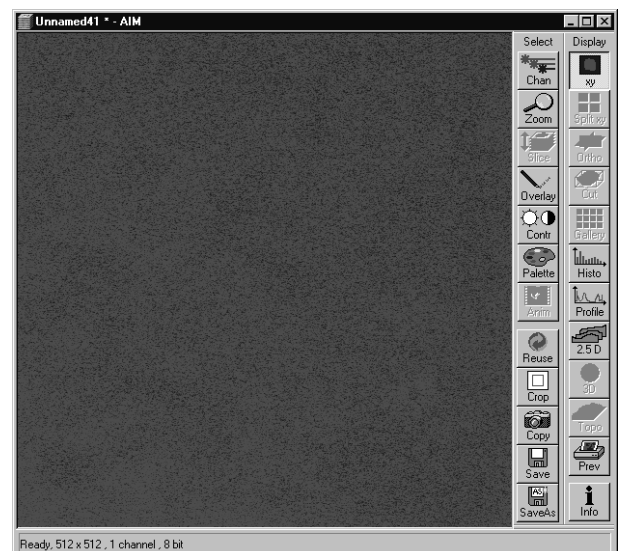

Fig. 4-91 LSM image of the Rh6G layer before bleaching. Usually some texture is observed.
- Optimize focus position and **Detector Gain** value for a good LSM image (see Fig. 4-91).